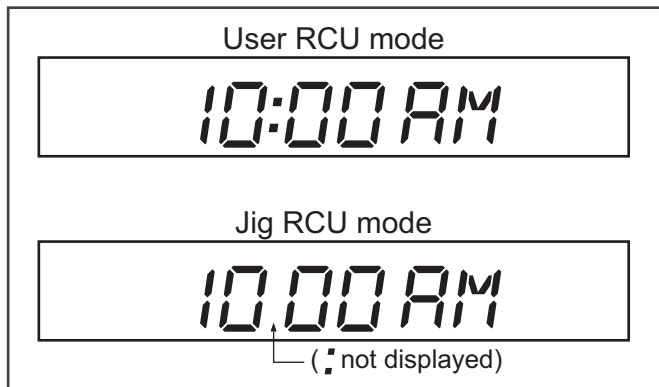

Fig.2-3a User/Jig RCU mode
- (1) Turn on the power.
- (2) Press the following remote keys continuously within 2 seconds " SET UP " → " 2 " → " 8 " → " ENTER ". When the VCR is set to the Jig RCU mode, the symbols (" : ") in the time display of the FDP are turned off. (Refer to Fig.2-3a)